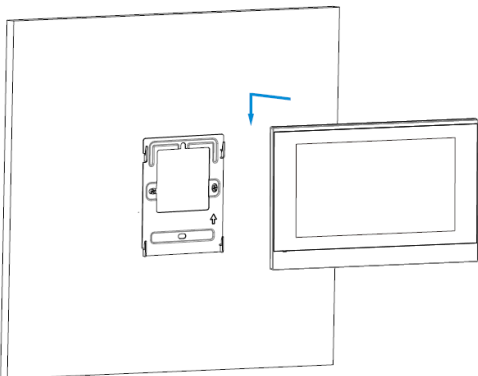

Figure 6: Device mounting
8. Align the device with the wall-mounting bracket. Push down to fix the device securely (Figure 6).